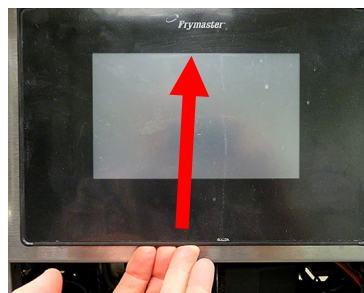

Figure 11
14. Slide the controller up to disengage it from the bezel (see Figure 11).